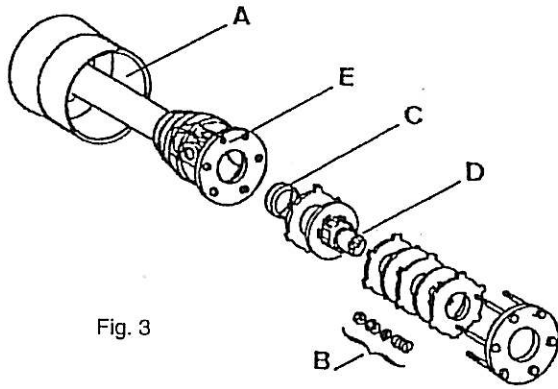

Fig. 3
Refer to Fig 3. Remove the guard (A) from the gearbox. Remove the 6 clutch locknuts, nuts, washers and springs. Fit the PTO Drive Shaft Clutch Plate (E) over the studs and re-fit the springs, washers, nuts and locknuts. Ensure all components are correctly seated then adjust clutch - refer ADJUSTMENTS section. Refit guard (A).